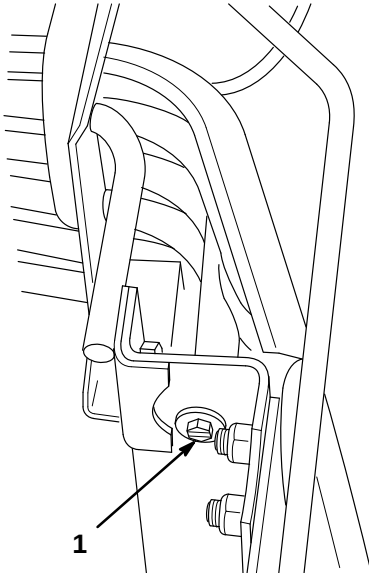

Figure 10
4. Remove the tractor's front grill by raising the hood and unscrewing the two screws and washers securing it in place (Fig. 10). Close the hood and remove the grill by pulling it out toward you.
11. Replace the front grill of the tractor, securing it with the two previously removed screws and washers (Fig. 10).